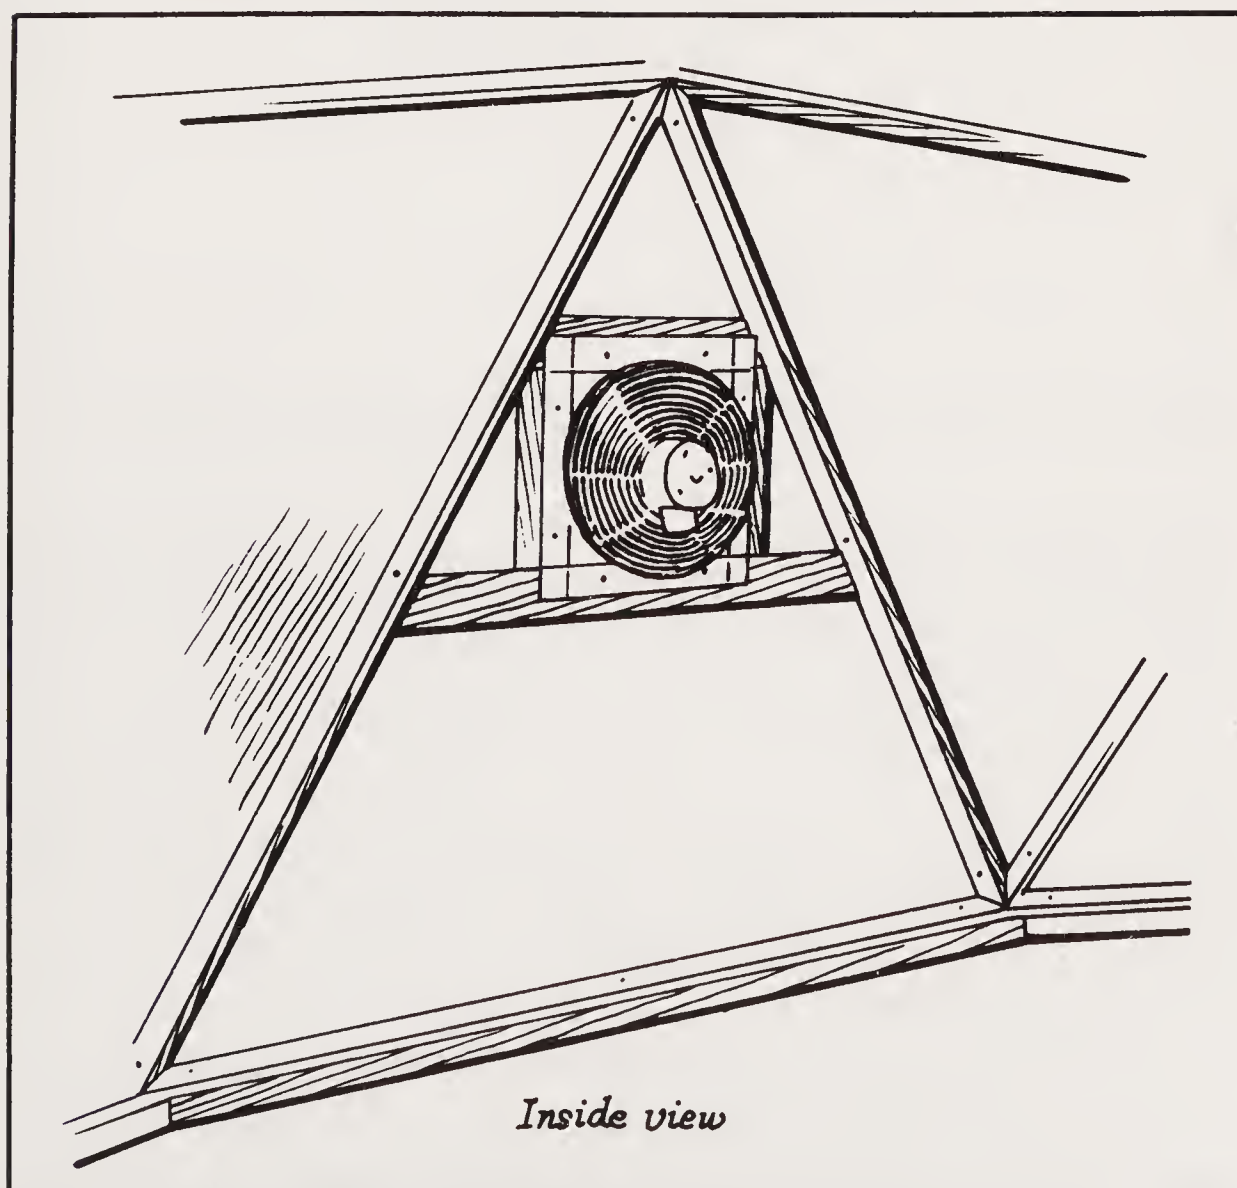

Fig. 2-91. Detail exhaust fan installation (courtesy of Peter Reimuller Co.).
**Exhaust Fan.** Cut the fiberglass away as you did for the inlet shutters. From the inside of the greenhouse, place the fan in the opening and attach with four ½" screws into the framework (Fig. 2-91).